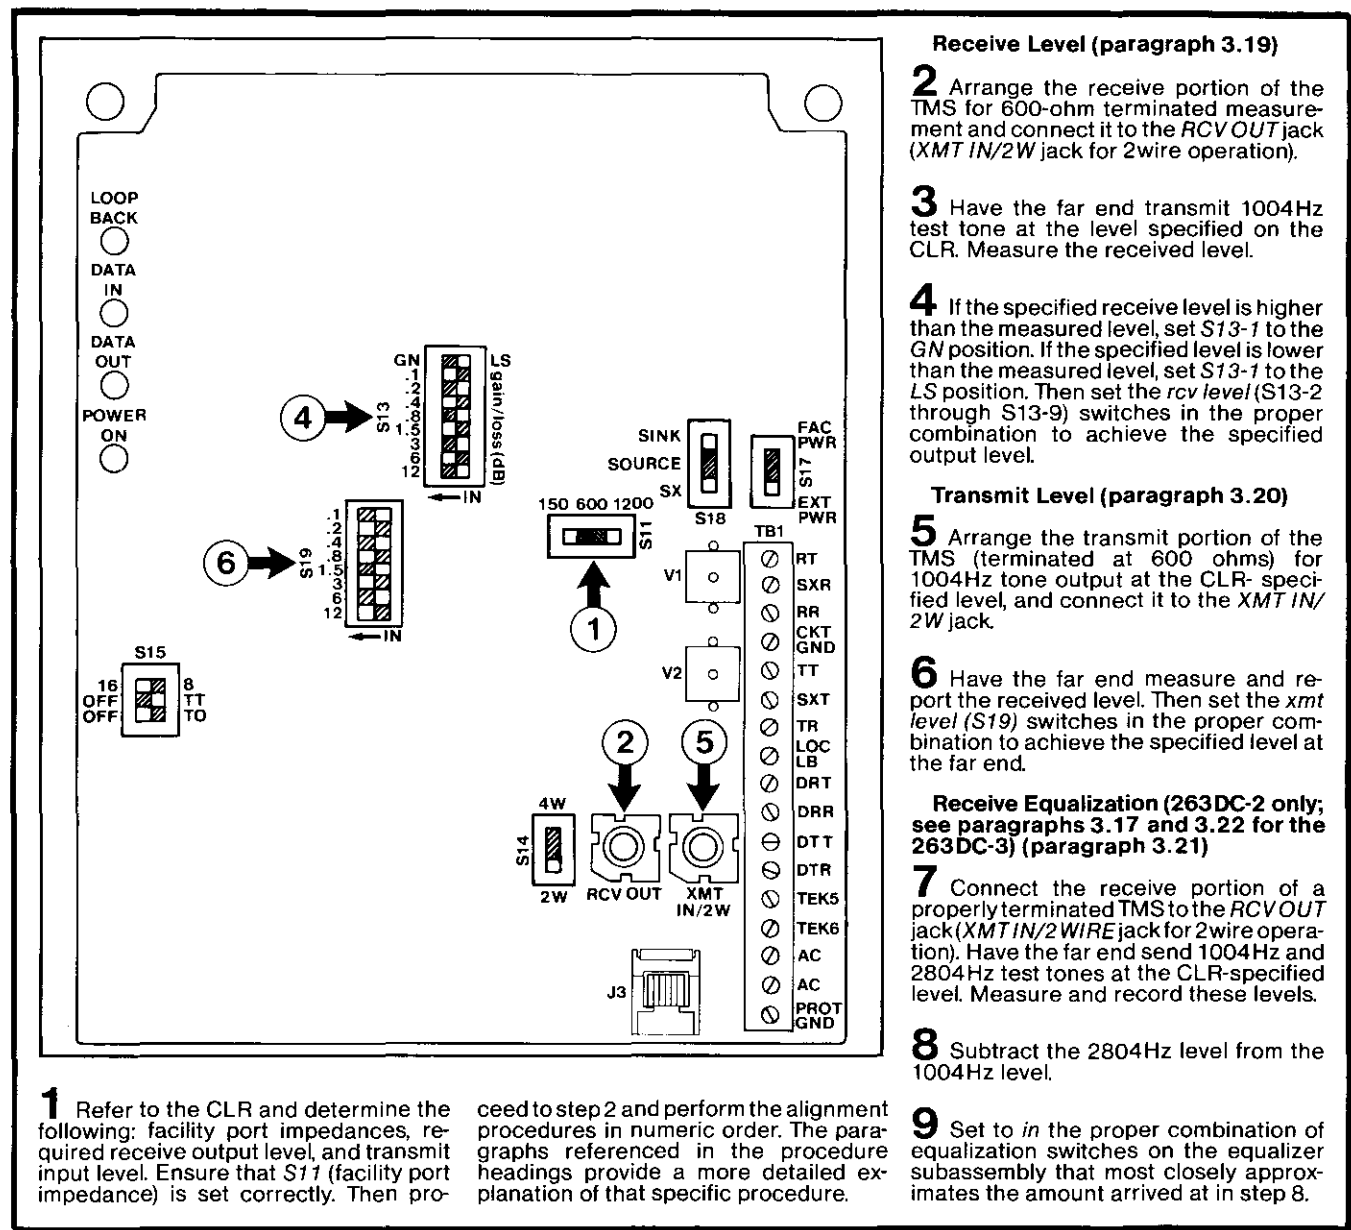

figure 9. Condensed non-prescription alignment procedures
3.14 Alignment of all three versions of the 263DC consists of setting the transmit and receive transmission levels and, for the 263DC-2 and 263DC-3 only, setting the receive-channel amplitude equalization if required. After all options on the unit are selected, two methods of alignment are available: prescription or direct measurement (non-prescription). With the prescription method, the unit's alignment switches are set according to the specifications on the circuit layout record or on a computer printout. In cases where the information supplied by the CLR or printout is inadequate or unavailable, it is necessary to perform the non-prescription alignment procedure. The procedure for prescription alignment of the 263DC's transmit and receive transmission level is given in paragraph 3.15; the non-prescription alignment procedure is given in paragraphs 3.19 and 3.20 (long form) and in figure 9 (condensed form). The prescription and non-prescription alignment procedures for the receive-channel equalizer on the 263DC-2 are given in paragraphs 3.16 and 3.21, respectively. The prescription alignment procedure for the 263DC-3's receive-channel equalizer is given in paragraph 3.17; information on non-prescription alignment of the 263DC-3's equalizer is provided in paragraph 3.22.
3.18 After the transmission levels and receive equalization are set, it may be desirable to confirm the results via end-to-end tests. Where computer-controlled test equipment is used, a subsequent printout will verify the alignment results. Any deviation from the required levels can then be adjusted via the appropriate switches. If computer-controlled test equipment is not available, the alignment results can be confirmed by performing the measurements in the condensed test procedures in figure 9.